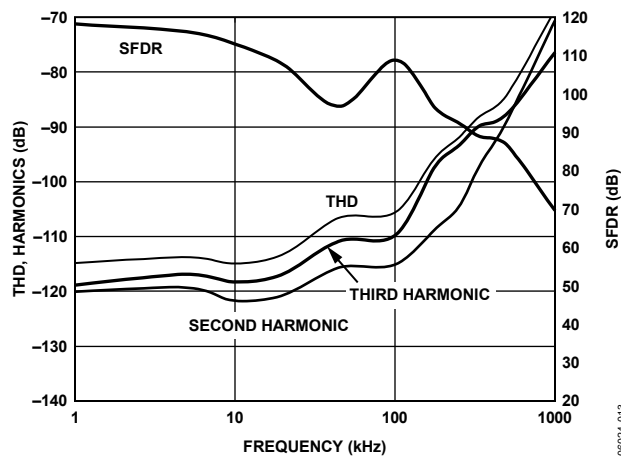

Figure 14. THD, Harmonics, and SFDR vs. Frequency
- The driver needs to have a THD performance suitable to that of the AD7643. Figure 14 gives the THD vs. frequency that the driver should exceed.